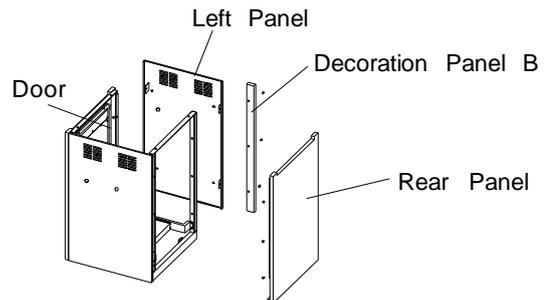

Fig. 2
- Remove Island Left, Rear and Decoration Panels B. See Fig. 2.